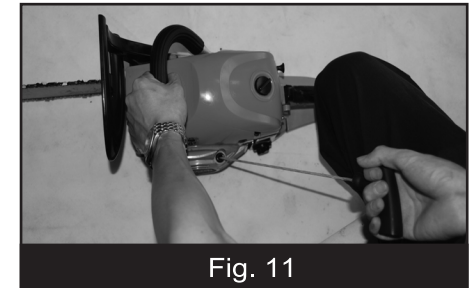

Fig. 11
- Securely hold the chain saw. When starting the chain saw, place the unit on a flat ground and hold the front handle with left hand and hold firmly the rear end of saw with right knee. (Fig. 11)